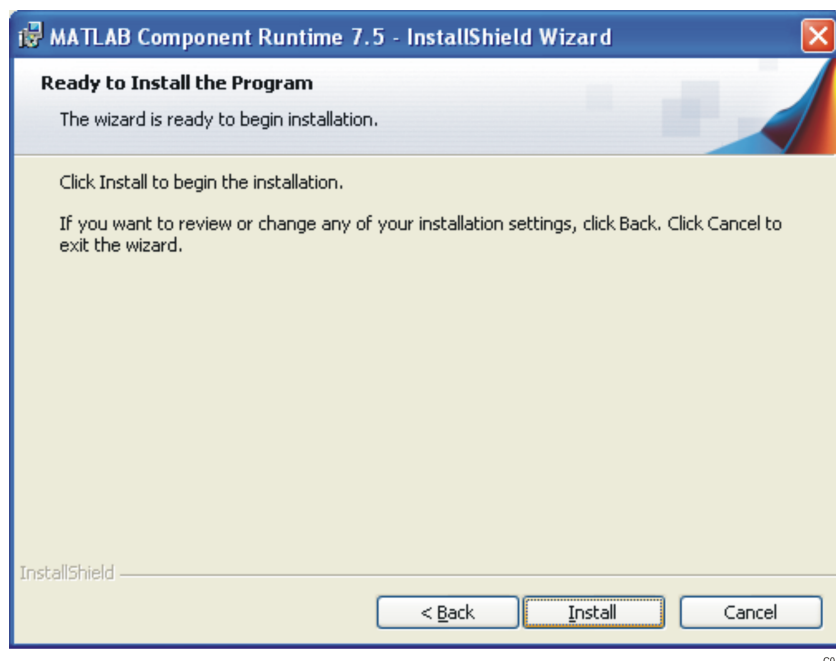

Figure 6. Ready to Install the Program
5. When the *Ready to Install the Program* screen (Figure 6) displays, click *Install* to begin the installation. The installation lasts approximately five minutes.